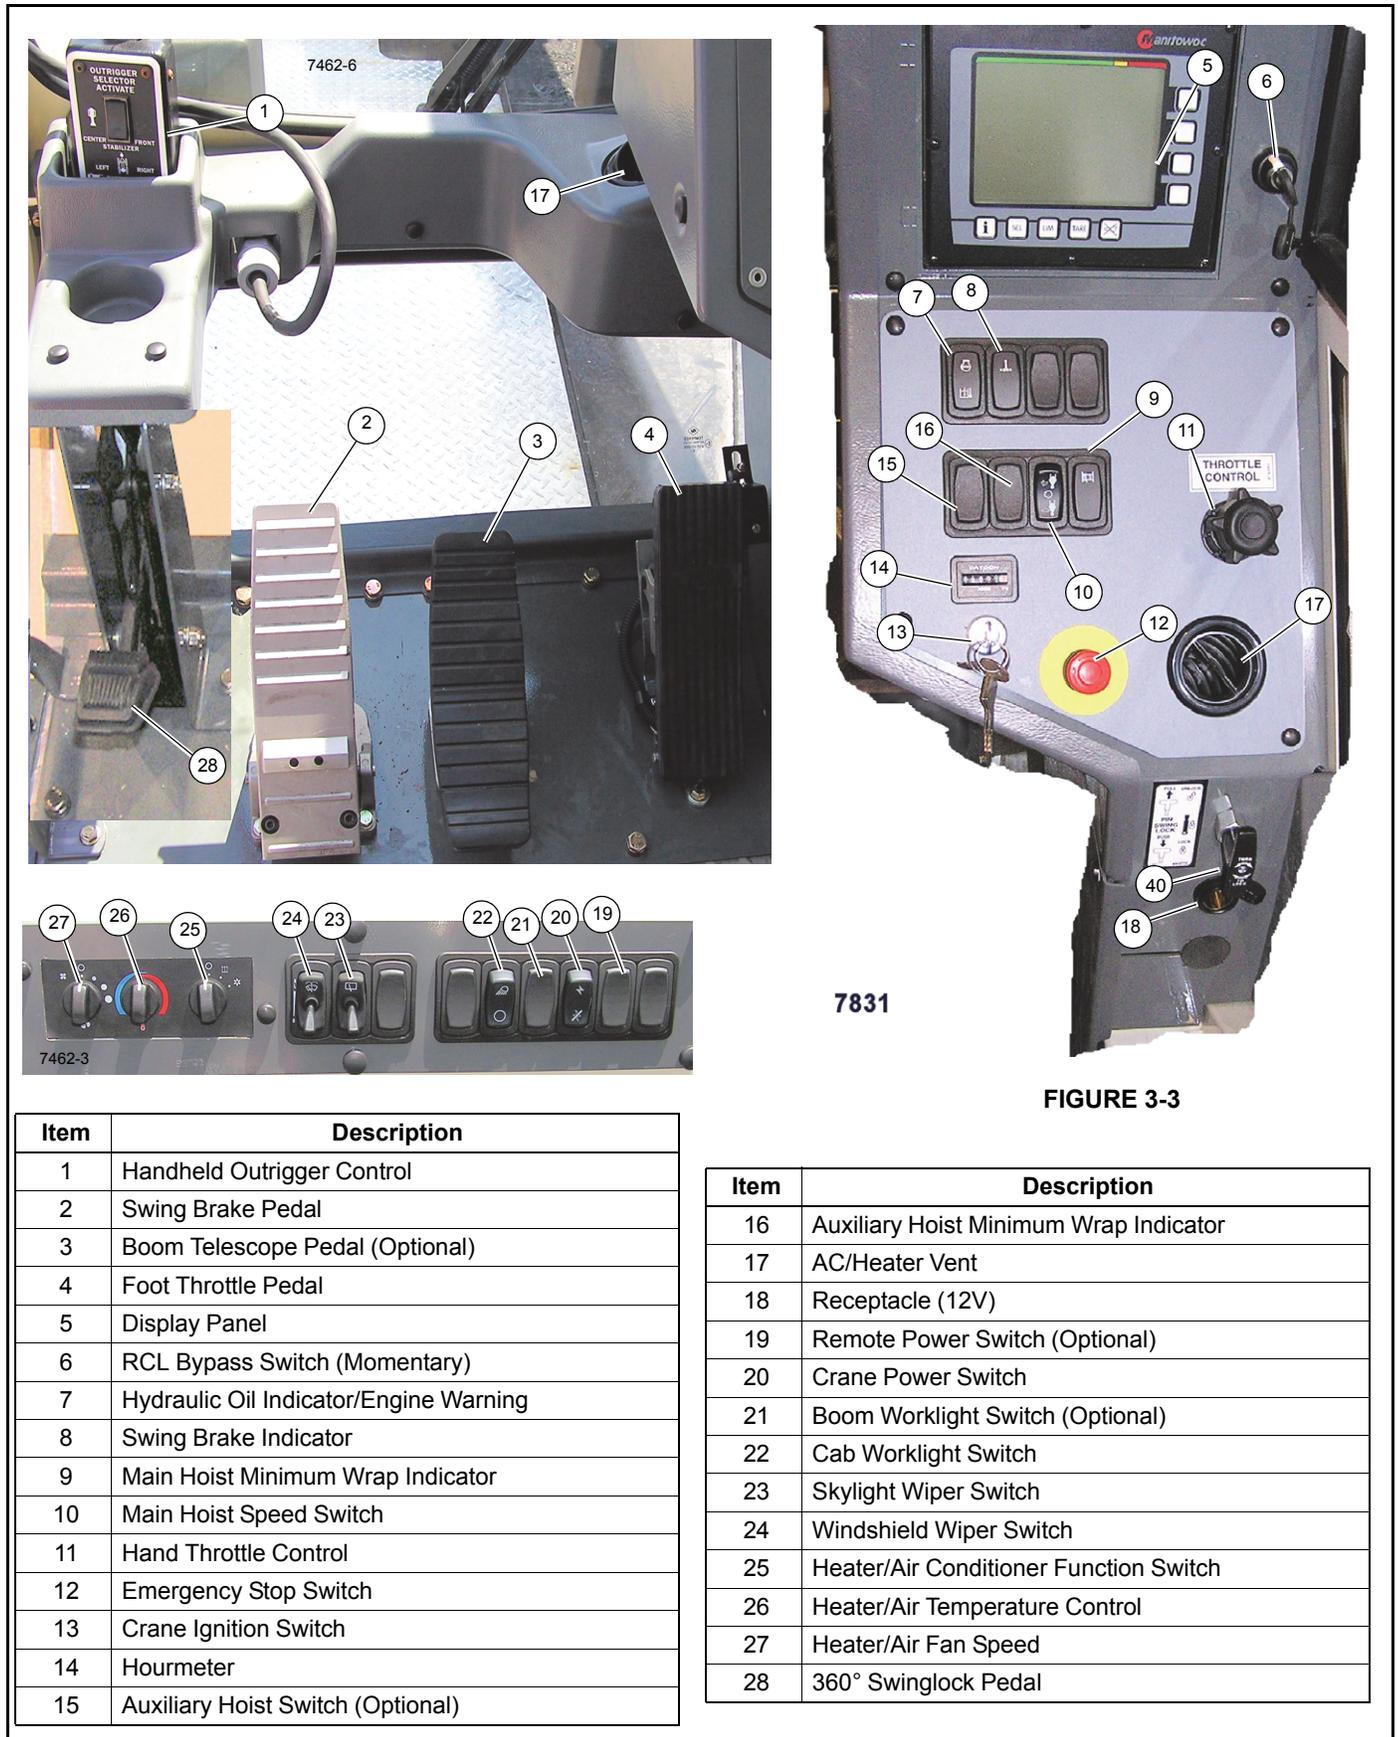
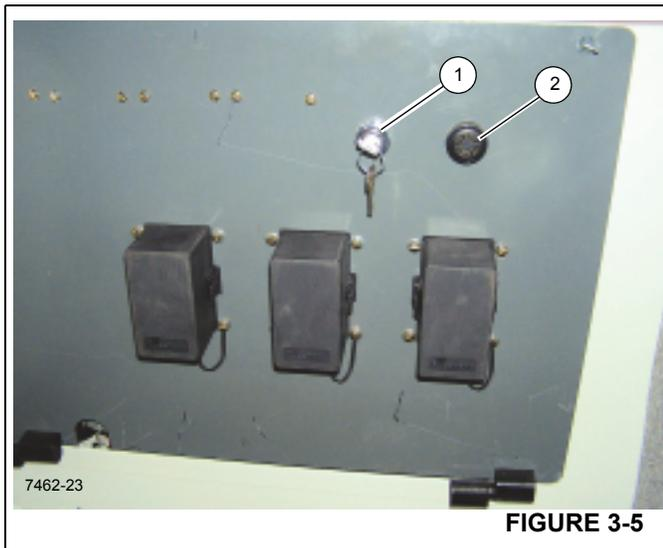

FIGURE 3-3
FIGURE 3-5
The crane controls are located in the crane cab and are used for all crane functions. See (Figure 3-3) for crane cab item number (#) identification. For best control response, run the engine at governed RPM when operating the crane.
The handheld outrigger controls (1, Figure 3-3) are stored in the crane cab and are used for outrigger operation from the crane cab. Crane Power switch must be on, operator in seat with armrest lowered.
The swing brake pedal (2, Figure 3-3) is located on the left side of the crane cab floor. The brake pedal is used to activate the swing brake and momentarily hold the turret in position.
The telescope foot pedal (3, Figure 3-3) is used to extend and retract the boom when the crane is equipped with an auxiliary hoist. Rock the pedal forward to extend the boom and rock back to retract the boom.
The display panel (5 Figure 3-3) is for the Rated Capacity Limiter (RCL), see operating instructions and screen displays in this manual.
The RCL Bypass Switch (6, Figure 3-3) is a *momentary* on-off switch, turn the key to the On position (right) to disengaged the RCL controls and minimum wrap lockout controls. Releasing the key allows the RCL and minimum wrap controls to re-engage.
The RCL and 3 wrap system will be bypassed only as long as the switch (6, Figure 3-3) is in the On position.
Turning the key switch (6, Figure 3-3) to the On position re-engages the boom down, telescope out and hoist controls. These functions were disabled when an overload condition was sensed by the Rated Capacity Limiter (RCL). It is important to read and understand the RCL Override Warning information in the RCL Operator's Manual before using the RCL Bypass switch (6) or the RCL on/off switch.
The bypass switch (6, Figure 3-3) will also re-engage the main and auxiliary hoist controls disabled by the minimum wrap indicator sensor system.
The RCL control can be turned completely off and back on using the switch (1, Figure 3-5) located behind the cab seat.
The hydraulic oil temperature warning light (7, Figure 3-3) is located on the crane cable console and illuminates when the hydraulic oil overheats. If overheating occurs, run the crane at idle with the controls in neutral until the light goes out.
The swing brake indicator (8, Figure 3-3) is located on the crane cab console. The indicator light is on when the swing brake is activated.
When the main hoist is down to the last cable wrap the minimum wrap indicator (9, Figure 3-3) will flash intermittently and the minimum wrap buzzer (2, Figure 3-5) will sound intermittently.
The main hoist speed selector switch (10, Figure 3-3) is located on the right seat armrest. It is a three position switch (on-off-on), placarded as rabbit (fast) hoist motor speed and turtle (slow) hoist motor speed.
The crane emergency stop switch (12, Figure 3-3) is located on the cab console and is used to shut down the truck engine. Push the red button in to shut down the engine, rotate the knob and pull out to resume normal operation.
The crane ignition switch (13, Figure 3-3) is located on the crane cab console and controls the truck engine and crane cab power. The ignition switch has four positions. OFF shuts down engine and cab power, ON activates truck engine ignition as well as all cab power, ACC is crane cab power and Start is truck engine start.
The auxiliary hoist speed selector switch (15, Figure 3-3) is located on the left seat armrest. It is a three position switch (on-on-on), placarded as rabbit (fast) hoist motor speed and turtle (slow) hoist motor speed.
When the auxiliary hoist is down to the last cable wrap the minimum wrap indicator (16, Figure 3-3) will flash intermittent and the minimum wrap buzzer (2, Figure 3-5) will sound intermittently.
The cab has air conditioner and heating vents (17, Figure 3-3), located on the control panel, behind the panel, and to the left of the operator.
This 12 volt accessory outlet (18, Figure 3-3) is located on the lower part of the front control panel and is designed to mate with most 12 volt adapter plugs.
The crane function power switch (20, Figure 3-3) is located on the right overhead console. The switch has two positions: OFF takes all power from the joy stick controllers on the arm rest, cab outrigger, and from the swing brake unlock (assuring the brake stays locked). The OFF position prevents inadvertent operation of these functions and assures the swing brake is set when the crane is not powered. The ON position will restore power to the joy stick controllers, the swing brake and the cab O/R hand controller.